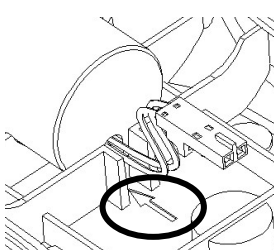
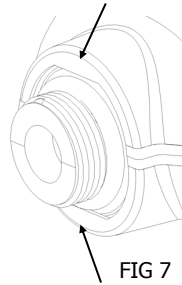
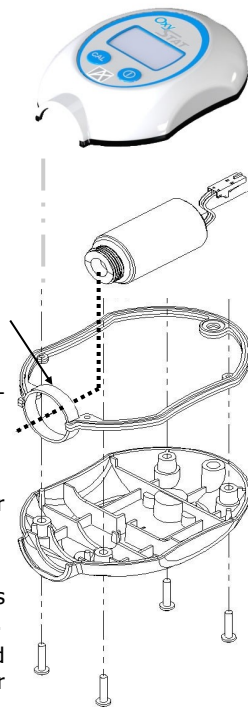

FIG 5
FIG 7
FIG 6
- (a) Align the rear of the sensor as shown in FIG 5, but do not install.
- (b) Insert the sensor into the molded collar, arrow FIG 6, and align the outer shoulder with the front edge of the collar.
- (c) Locate the registration peg indicated by the arrow circled in FIG 5.
- (d) Gently press the hole where the wires exit the sensor onto the registration peg, FIG 5.
3. The sensor is registered as shown in FIG 5 and FIG 7 and the connecting wires are not bent or bound when closing up the enclosure and tightening the Phillips screws, FIG 6.